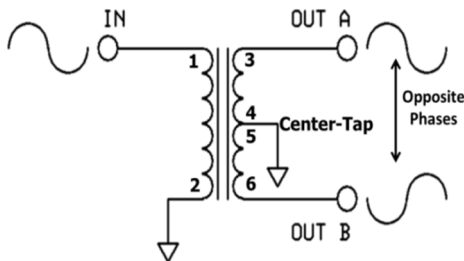

Fig 2.23 Center-tap transformer
- A transformer input full wave rectifier (FWR) is shown in fig 2.23. The transformer becomes complex, with a centre-tap operation.
Look at fig 2.23.